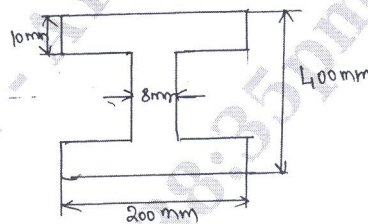

Fig.Q7(b)
b. A cross section of a beam is as shown in Fig.Q7(b). If permissible stress is 150 N/mm². Find its moment of resistance compare it with equivalent section of same area for a square section.